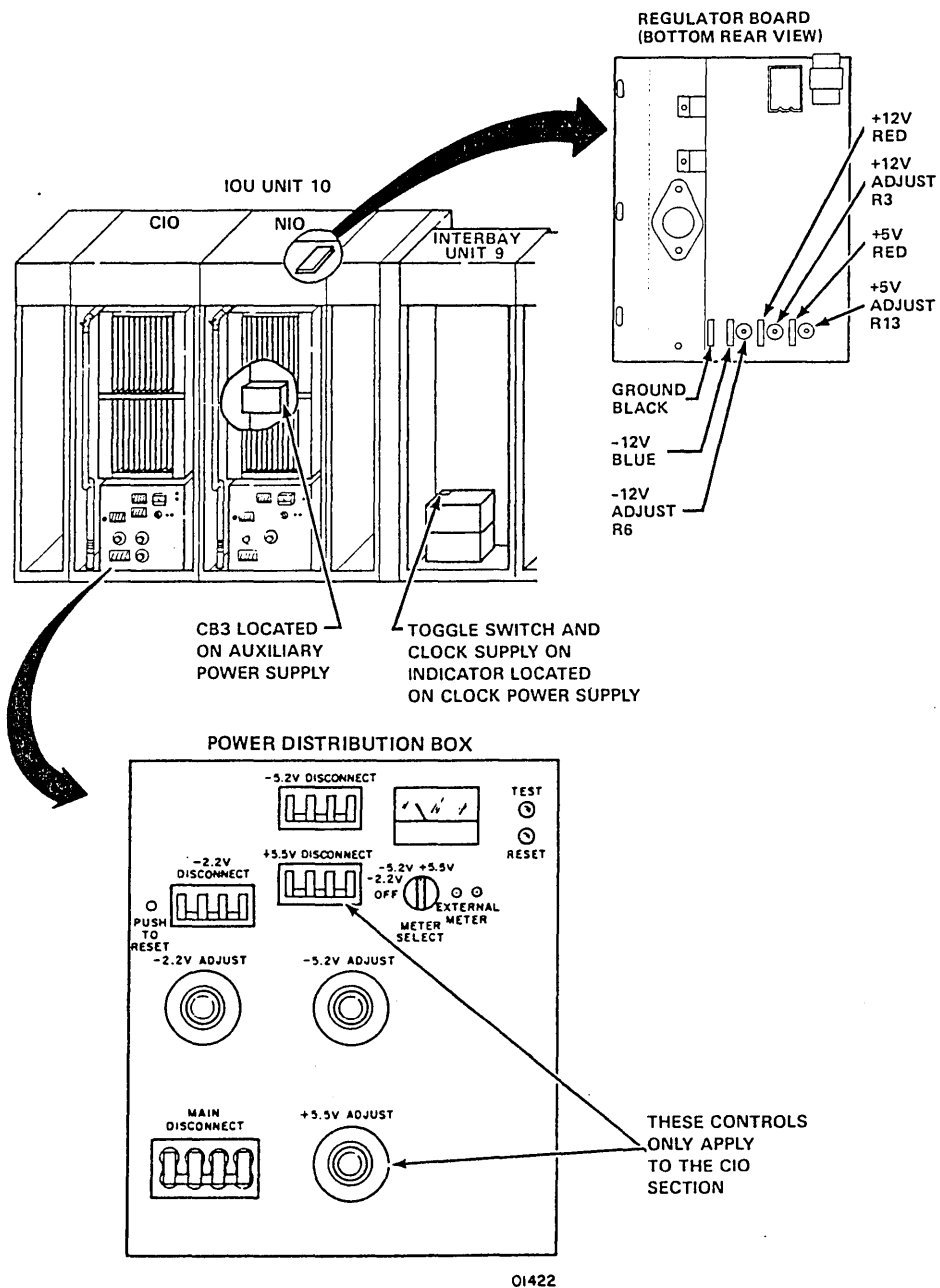

Figure 4-26. IOU Power Controls and Adjustments
- ___ a. Set meter SELECT SWITCH (figure 4-26) to -2.2 V.